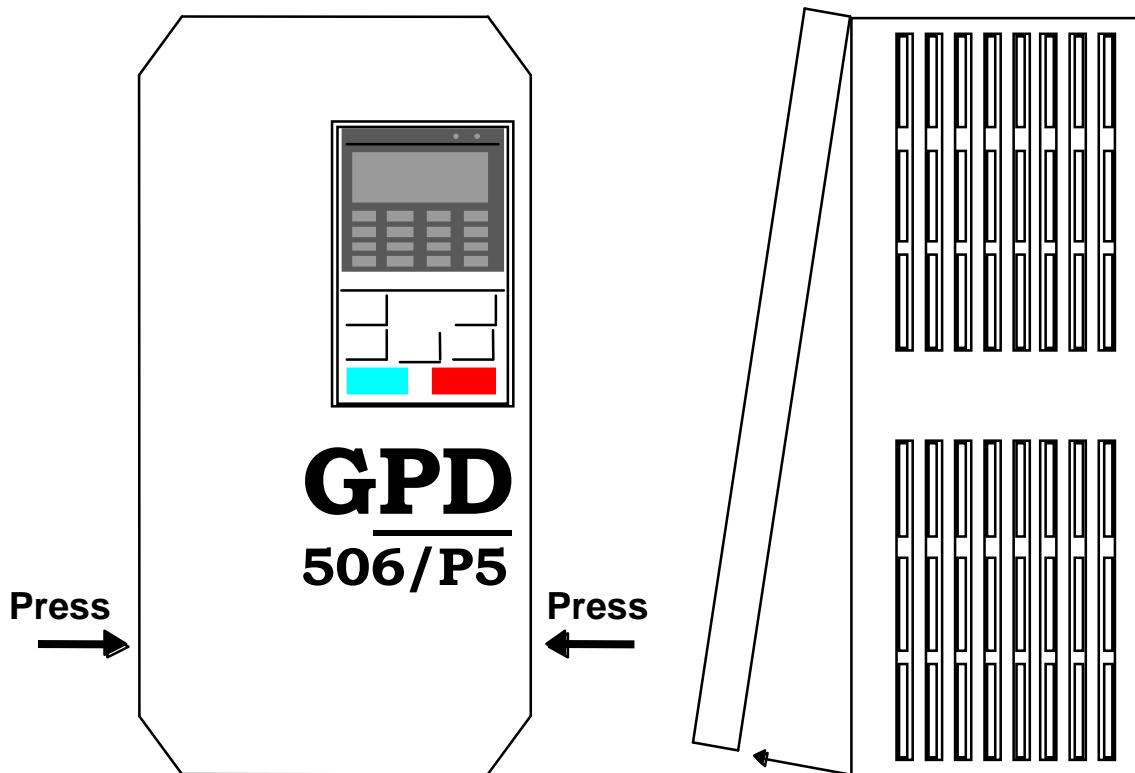

Figure 3. Cover Removal
- Step 2.** Remove the drive cover, applying pressure to the locking tabs on either side of the cover as illustrated in **Figure 3**. With the locking tabs disengaged, pivot the cover out from the bottom. Continue pivoting it until the top hinge disengages.